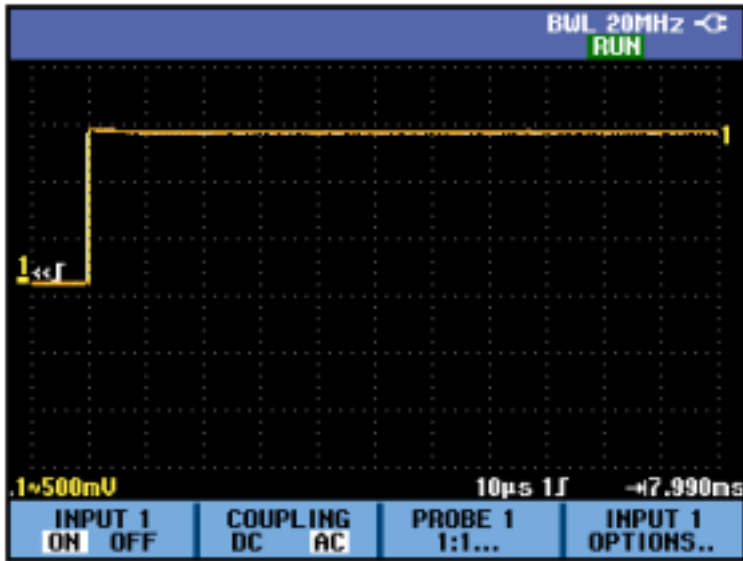

Figure 6: 8 ms time marker
7. Position the trace to the right until the indicated trigger delay is 7.990 ms. (See Figure 6 on page 14.)